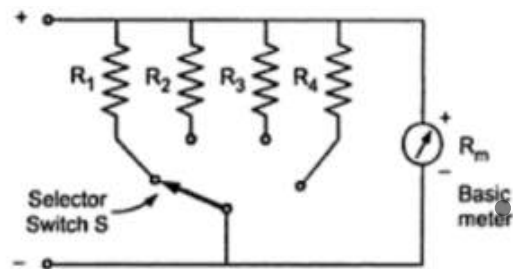

Fig 2. Multirange Ammeter
- The range of the basic d.c. ammeter can be extended by using number of shunts and a selector switch. Such ammeter is called multirange ammeter as shown in the Fig 2